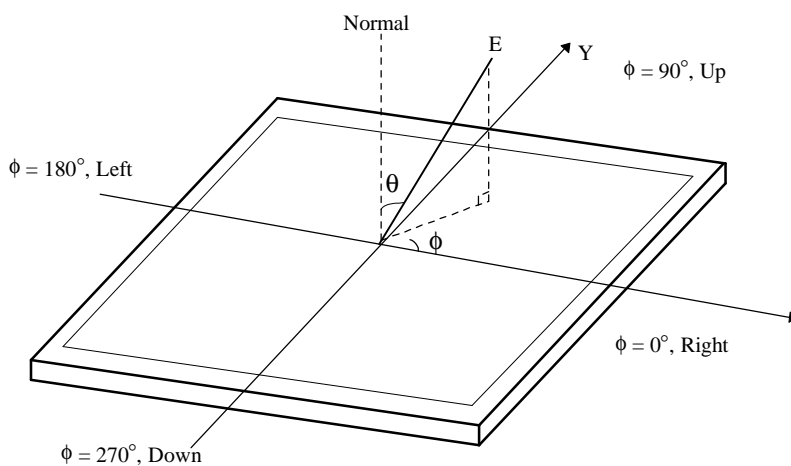

FIG. 10 Viewing angle
5. **Viewing angle** is the angle at which the contrast ratio is greater than 10 or 5. The angles are determined for the horizontal or x axis and the vertical or y axis with respect to the z axis which is normal to the LCD surface. For more information see FIG. 10 .